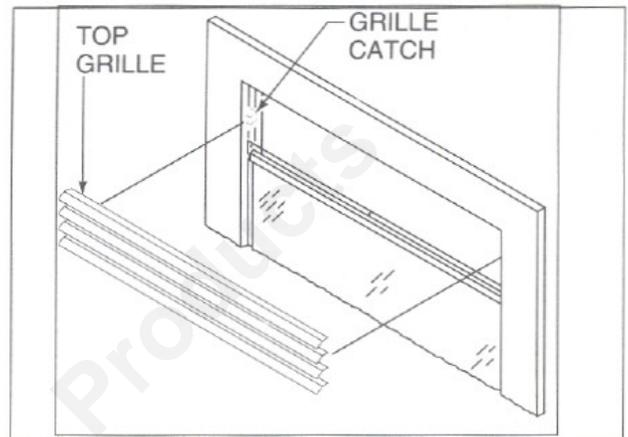
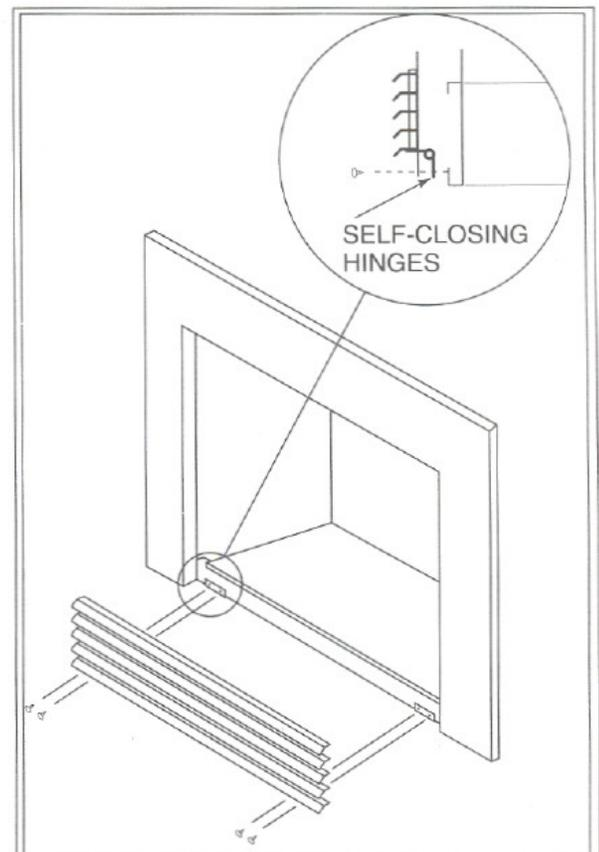

Figure 10
Figure 11
The upper grille (4 louvers) can now be snapped into position. See Figure 10 (page 8). Simply align the grille with the top of the opening and snap into place.
The lower louver is easily affixed to the bottom of the EZ with (4) four screws. Insure the lower grille is centered before tightening the screws. The back flange of the lower grille should contact the firebox bottom to ensure optimum performance. See Figure 11 (page 8).
To remove glass for cleaning of burner area - See Figure 10 - **(DO NOT REMOVE WHEN HOT):**
To Install or Remove Grilles. The top grille will simply clip into position by aligning the top of the grille with the top and sides of the surround and pushing it into place. See Figure 10. The lower grille is easily affixed to the bottom of the EZ with four screws. Insure the lower grille is centered before tightening the screws. See Figure 11.